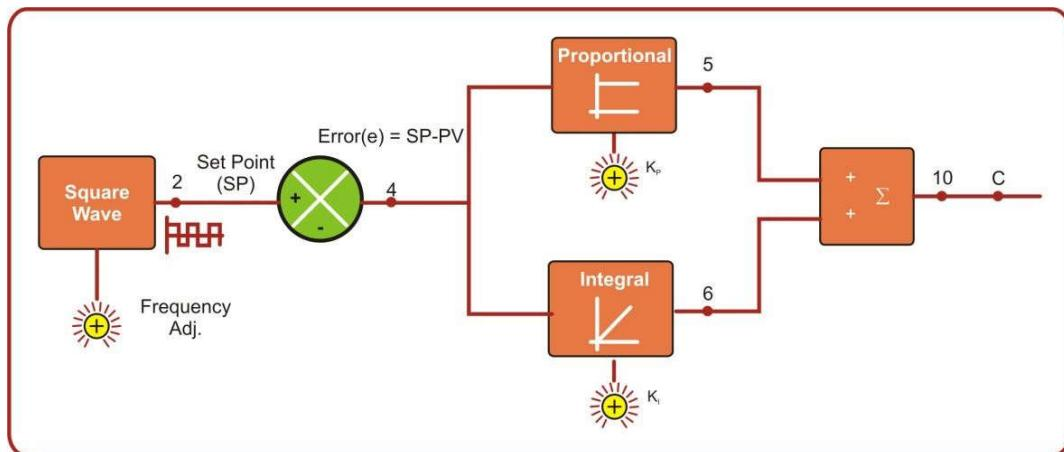
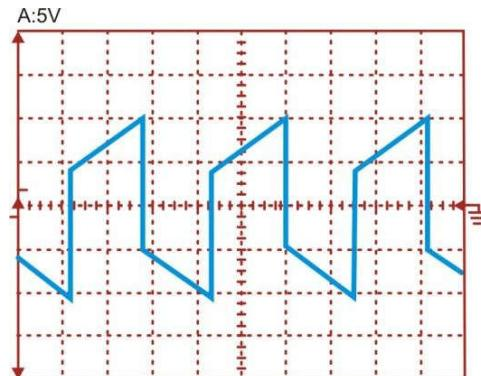

Figure 12
Figure 13
Connections for Proportional + Integrator (PI) controller are as shown in the figure 12.
3. Apply square wave to the set point (SP).
4. Check the output of summer block  $\Sigma$  of summing block on CRO that will look like as shown in figure 13.